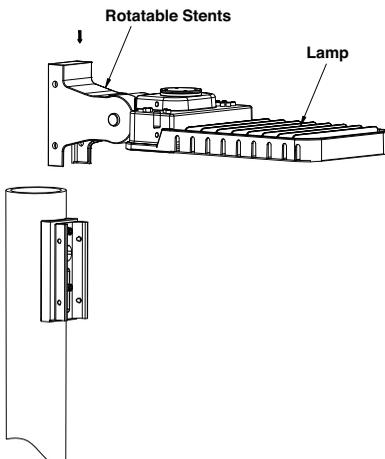

FIG. 4
2. Insert the fixture into the adapter. (See FIG. 4)